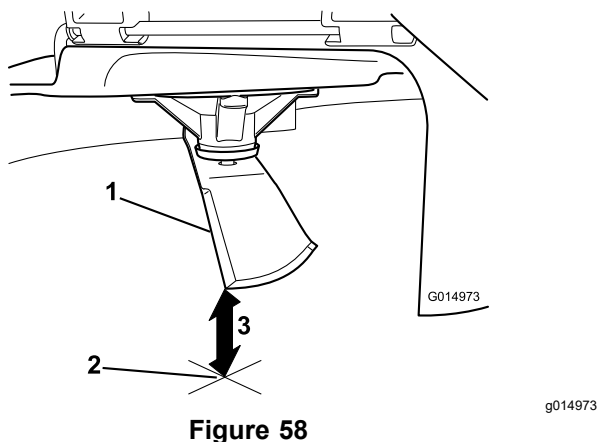

Figure 58
5. Measure from the tip of the blade to the flat surface (Figure 58).